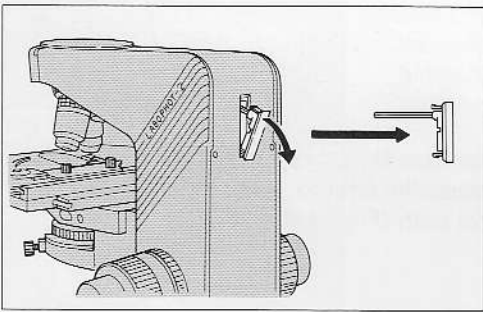

Fig. 2-17
⑫ Hexagon Wrench
- The hexagon wrench is stored in the back of the microscope stand. Take it out as shown in Fig. 2-17.